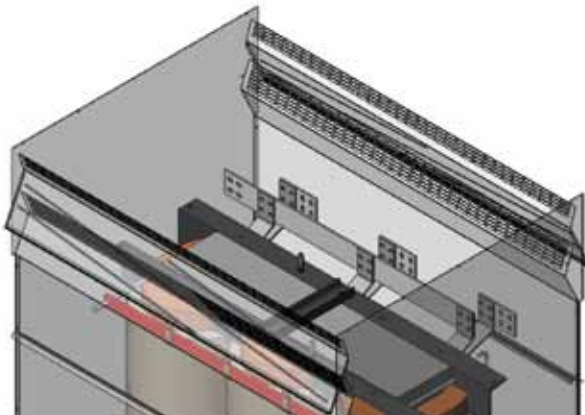
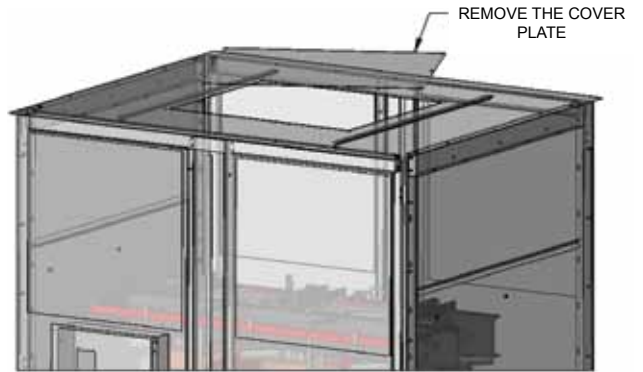

FIGURE 2
FIGURE 3
- (1) Remove the roof of NJ type of enclosure (see figure 2) or lifting cover plate on roof of power enclosure (see figure 3).